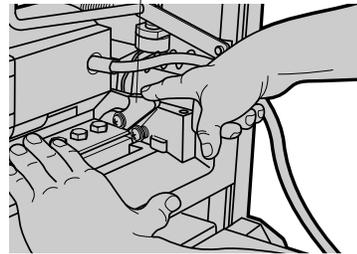

FIG. 18
- 8) Press the cutterhead lock lever (Figure 18) down toward the knife and gently roll the cutterhead backward until the knife can be removed.
- 9) Press the cutterhead lock lever (Figure 18) down and roll the cutterhead until the other knife assembly is visible. Remove this knife following the steps above.
- Remove the knife gauges and rotate the cutterhead back to the position shown in Figure 18. Replace and retighten the six middle bolts. Bolts should be tightened to a torque of 50 in. lbs. (5.7 N-m).
- Press the cutterhead lock lever (Figure 18) down and roll the cutterhead until the other knife assembly is visible. Replace this knife following the steps above.